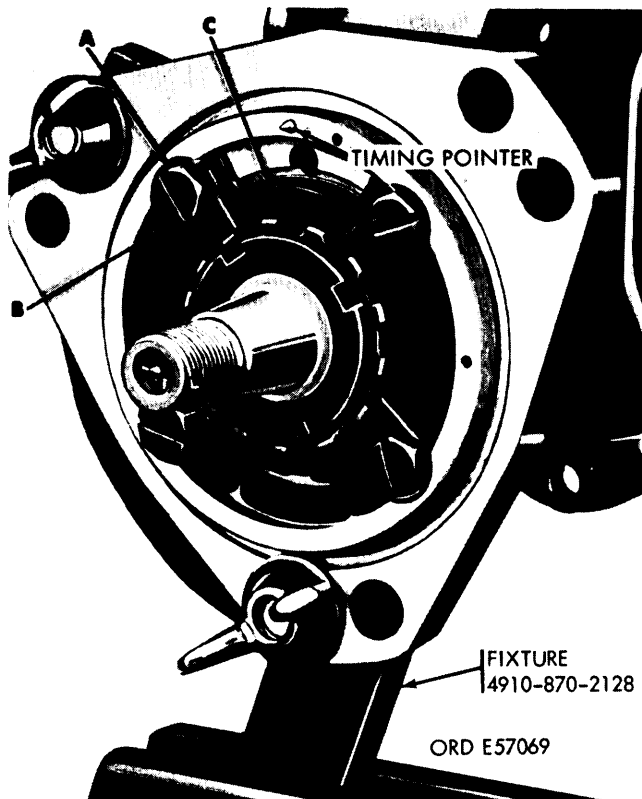

Figure 3-27. Removing bearing retaining plate.
3-16. Removal of Camshaft. a. Refer to figure 3-27. Straighten tabs on lockwashers (A) and remove four machine screws and lockwashers (B). Remove bearing retaining plate (C). Remove pump housing from holding fixture.
Support the pump housing so that the timing pointer (fig. 3-27) will not be damaged.